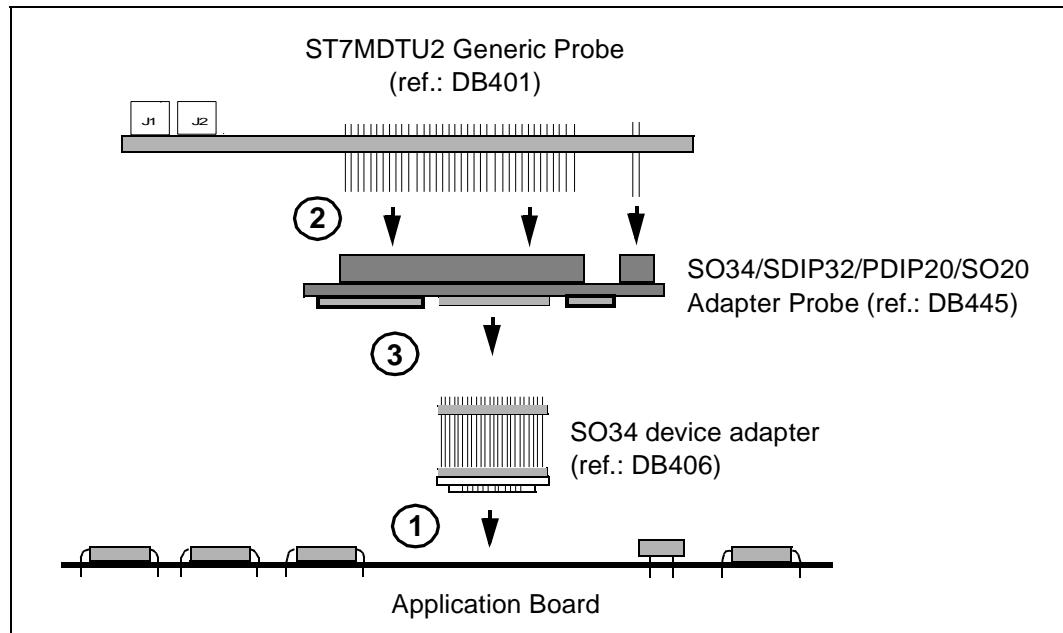

Figure 12: SO34 MCU package connections
C) If you are using the SO34 MCU package, follow these steps (see *Figure 12*):